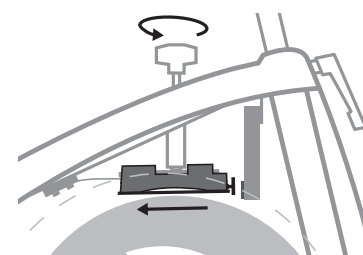

Figure 25
- 2: Release all tension and push the brake unit back on the shaft, see figure 25.